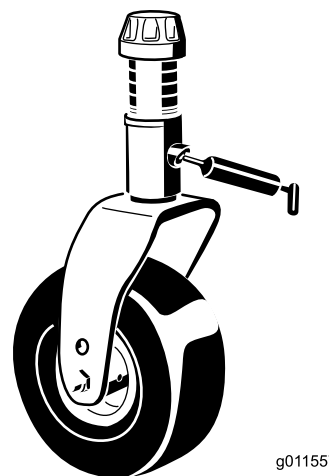

Figure 82
- 2 caster-fork-shaft bushings (Figure 82)